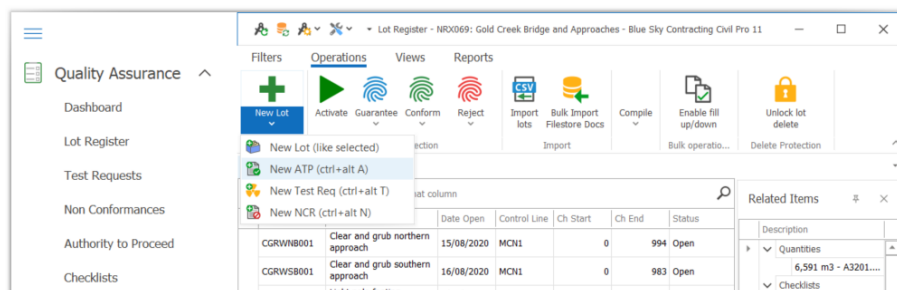

Figure 72 Creating a new ATP from the Lot Register using New Lot dropdown
3. Click on the *New Lot* drop down within the Operations heading of the ribbon menu and select *New ATP* (or shortcut Ctrl + Alt a) as in Figure 72.